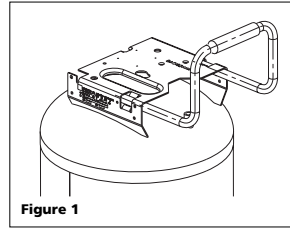

Figure 1
- Insert handle through shroud and into baseplate as shown in Figure 1. Handle must fit into special openings in baseplate.